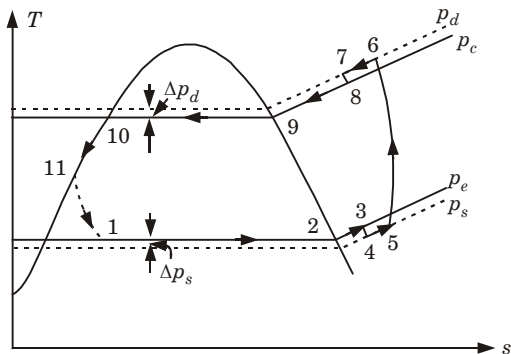

Fig. 5.16.1. Actual vapour compression cycle (T - s diagram).
1. The actual vapour compression cycle on T - s is shown in Fig. 5.16.1.
2. In above Fig. 5.16.1, path 3-4 represents the throttling action that occurs during passage through the suction valves and path 7-8 represents the throttling during passage through exhaust valves.